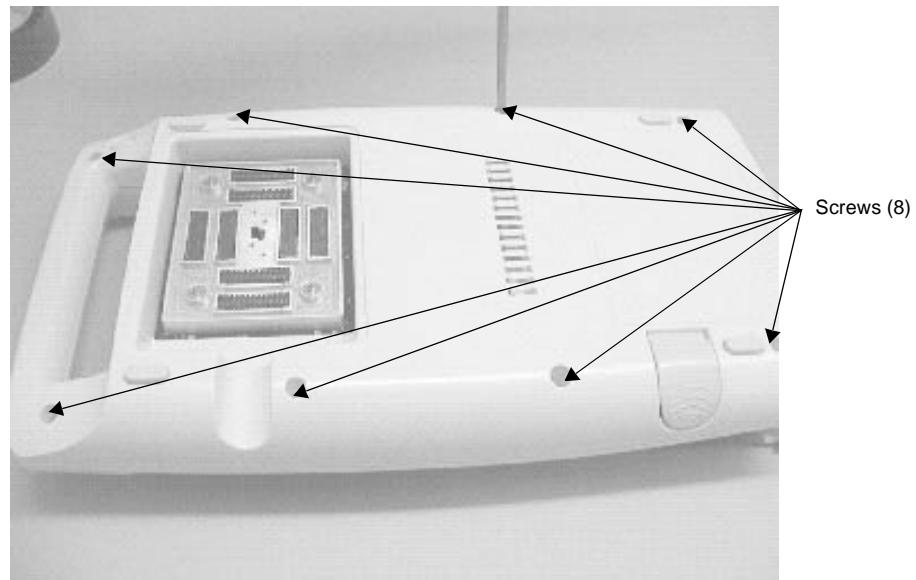

Figure 7.18 Removing the Bottom Housing from the Top Housing
- 3** Remove the eight screws securing the bottom housing to the top housing using a #1 Phillips screwdriver (Figure 7.18).